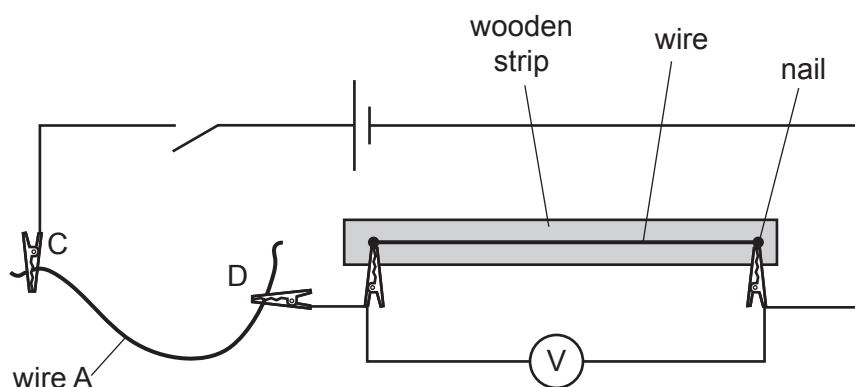

Fig. 2.2
- Set up the circuit shown in Fig. 2.2.